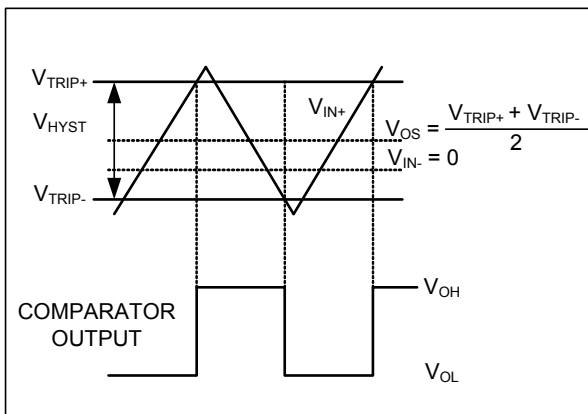

Figure 1. Input and Output Waveform, Non-inverting Input Varied
3. VOS is defined as the center of the input-referred hysteresis zone. See Figure 1.
4. The input-referred trip points are the extremities of the differential input voltage required to make the comparator output change state. The difference between the upper and lower trip points is equal to the width of the input-referred hysteresis zone. See Figure 1.
The hysteresis in a comparator creates two trip points: one for the rising input voltage and one for the falling input voltage (Figure 1). The difference between the trip points is the hysteresis. The average of the trip points is the offset voltage. When the comparator's input voltages are equal, the hysteresis effectively causes one comparator input voltage to move quickly past the other, thus taking the input out of the region where oscillation occurs. Standard comparators require hysteresis to be added with external resistors. The SGM8742's fixed internal hysteresis eliminates these resistors. To increase hysteresis and noise margin even more, add positive feedback with two resistors as a voltage divider from the output to the non-inverting input.
Figure 1 illustrates the case where IN- is fixed and IN+ is varied. If the inputs were reversed, the figure would look the same, except the output would be inverted.